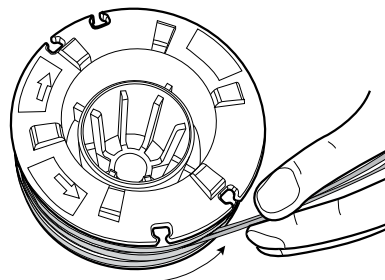

Fig. 17
5. Wrap the line evenly and firmly around the spool (Fig. 17).